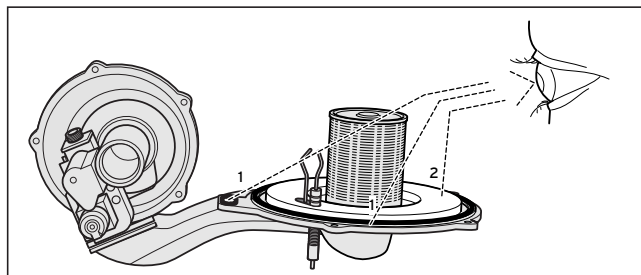

Fig. 7.3 Renewing the seals (1) and checking the burner flange insulation (2)
- Renew the silicone gaskets (1) (see Fig 7.3)
The two silicone seals (1 - fig. 7.3) on the compact thermal module ((SP no. 98-1046) must be replaced each time the module is removed (for example during maintenance). The burner flange insulation (2 - fig. 7.3) on the compact thermal module (SP no. 21-0734) may not show any signs of damage; otherwise it must also be replaced.